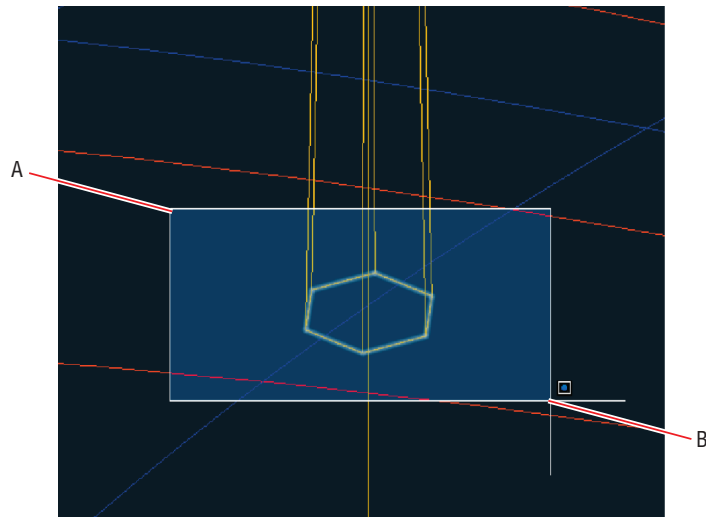

FIGURE 17.19 Joining six edges to form a hexagonal polyline
11. Zoom in on the hexagonal bottom of the mast. Type J (for Join) and press Enter. Click points A and B shown in Figure 17.19 to create a crossing window that selects the lines, making a hexagon, and press Enter.